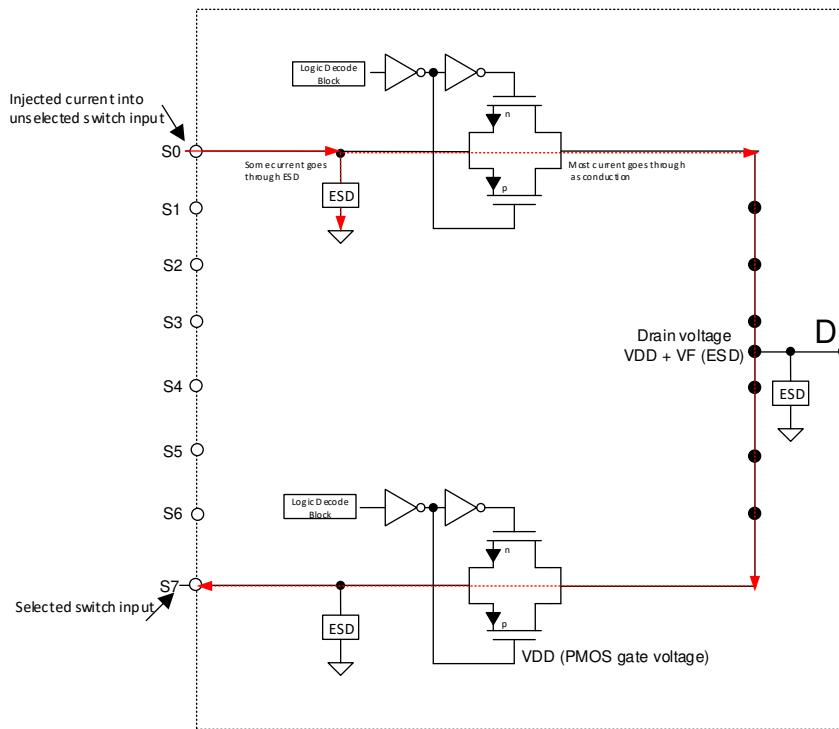

Figure 8-3. Simplified Diagram of Typical CMOS Switch and Associated Injected Current Path
Injected Current Impact: typical CMOS switches have ESD protection diodes on the inputs and outputs. These diodes not only serve as ESD protection but also provide a voltage clamp to prevent the inputs or outputs going above V_{DD} or below GND and V_{SS} . When current is injected into the pin of a disabled signal path, a small amount of current goes through the ESD diode but most of the current goes through conduction to the drain. If forward diode voltage of the ESD diode (VF) is greater than the PMOS threshold voltage (VT), then the PMOS of all OFF switches turns ON and there would be undesirable subthreshold leakage between the source and the drain that can lift the OFF source pins up also. Figure 8-3 shows a simplified diagram of a typical CMOS switch and associated injected current path.